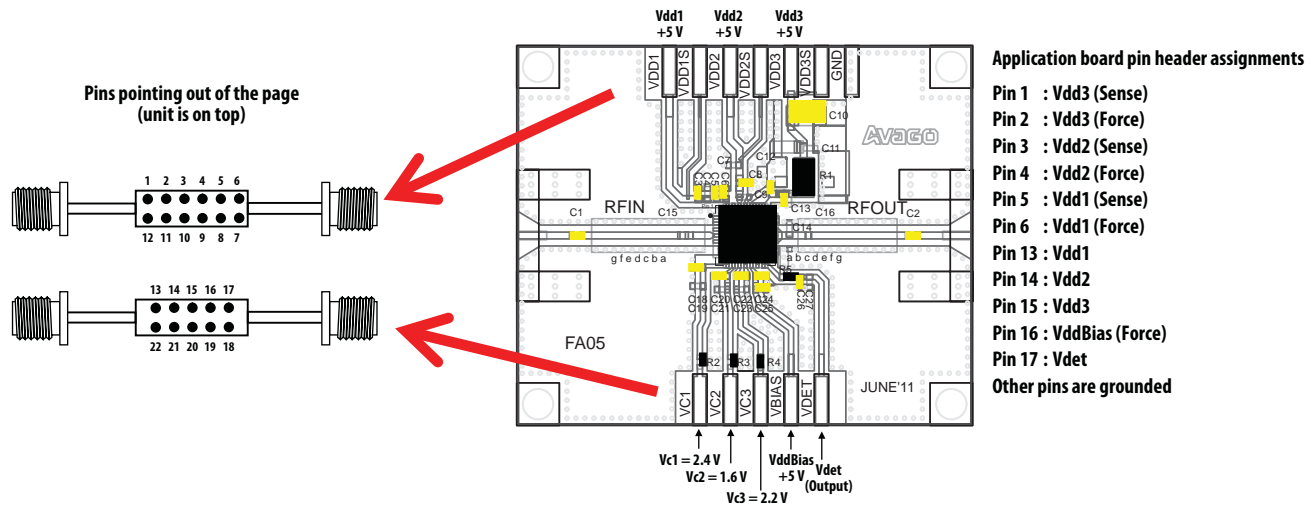

Figure 30. Demonstration board application circuit for MGA-43628 module
3.  $I_{dq1} = 60.0\text{mA}$ ,  $I_{dq2} = 110\text{mA}$ ,  $I_{dq3} = 270.0\text{mA}$ ,  $I_{VddBias} = 14.0\text{mA}$ .  $I_{dq1/2/3}$  are adjusted by voltages to CMOS-compatible control pins Vc1/2/3 respectively. These typical bias currents were obtained with Vc1/2/3 voltages in Figure 30 above. Adjustment of these currents enable optimum bias conditions to be achieved for best linearity and efficiency for a given modulation type.